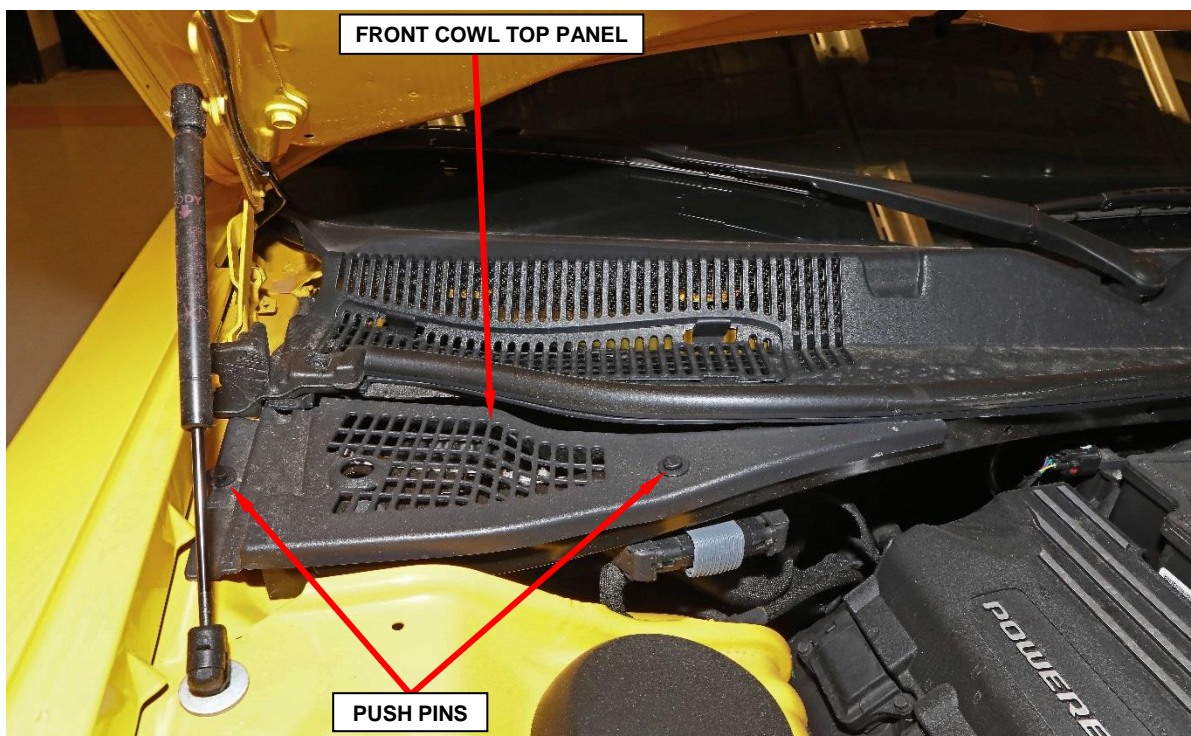

Figure 4 – Front Cowl Top Push Pins
3. Remove the two pushpins that secure the front cowl top panel to the right rear corner of the engine compartment (Figure 4).
4. Remove the front cowl top panel (Figure 4).